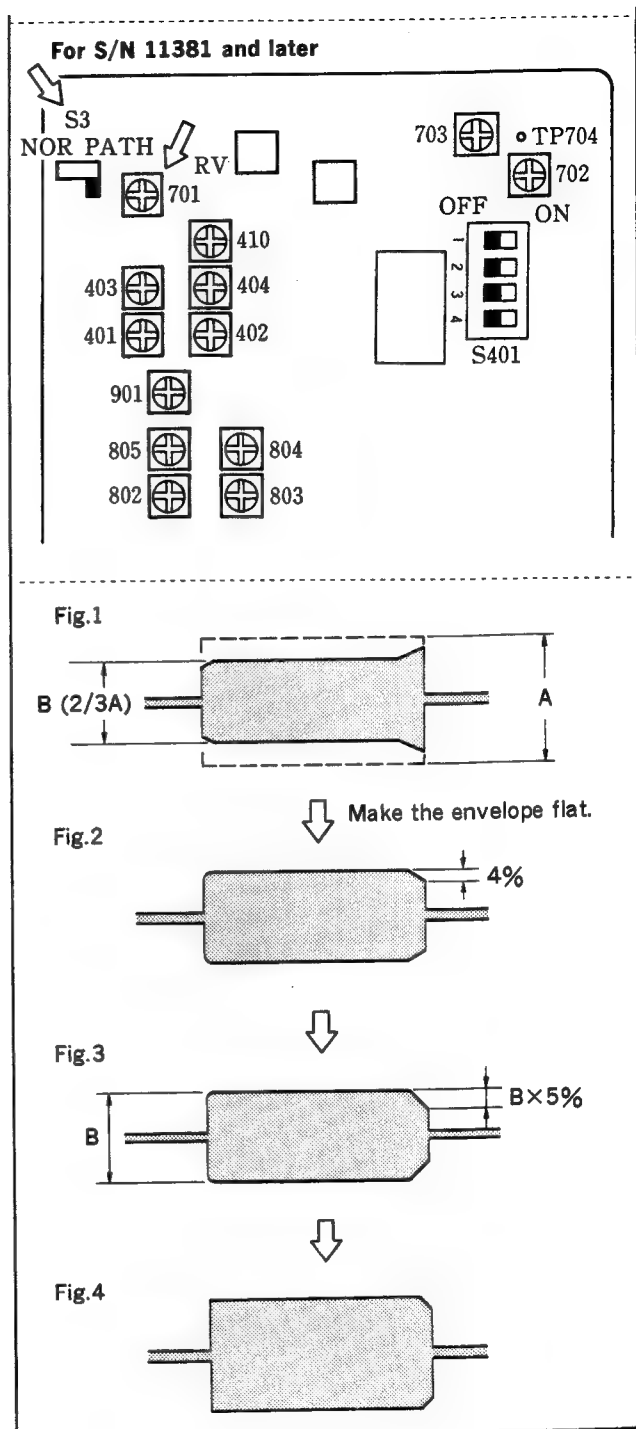

Fig. 6-3-4 Exit side fine adjustment
Set switch S401-3 on SST-2 board to ON. Set the mode select switch on the control panel to EDIT. Press then ASSEMBLE button. [Lamp lights ON.] Turn RV701 on SST-2 board to counterclockwise direction until RF wave shape amplitude is reduced to 2/3. (See Fig. 6-3-4 (1).)
Set switch S401-3 on SST-2 board to ON. Set the mode select switch on the control panel to EDIT. Press then ASSEMBLE button. [Lamp lights ON.] Turn RV703 on SST-2 board to counterclockwise direction until RF wave shape amplitude is reduced to 2/3. (See Fig. 6-3-4 (1).)
Turn RV701 on SST-2 board to counterclockwise direction until RF wave shape amplitude is reduced to 2/3. (See Fig. 6-3-4 (1).)
2. Lower the height of Guide No.5 so that wave shape decreases by 4% from flat wave shape. (See Fig. 6-3-4 (2).)
3. Lower the height of Guide No.4 so that wave shape decreases by 5% from B wave shape. (See Fig.6-3-4 (3).)
Adjust RV701 on SST-2 board until wave shape has the maximum amplitude. (See Fig. 6-3-4 (4).)
Adjust RV703 on SST-2 board until wave shape has the maximum amplitude. (See Fig. 6-3-4 (4).)